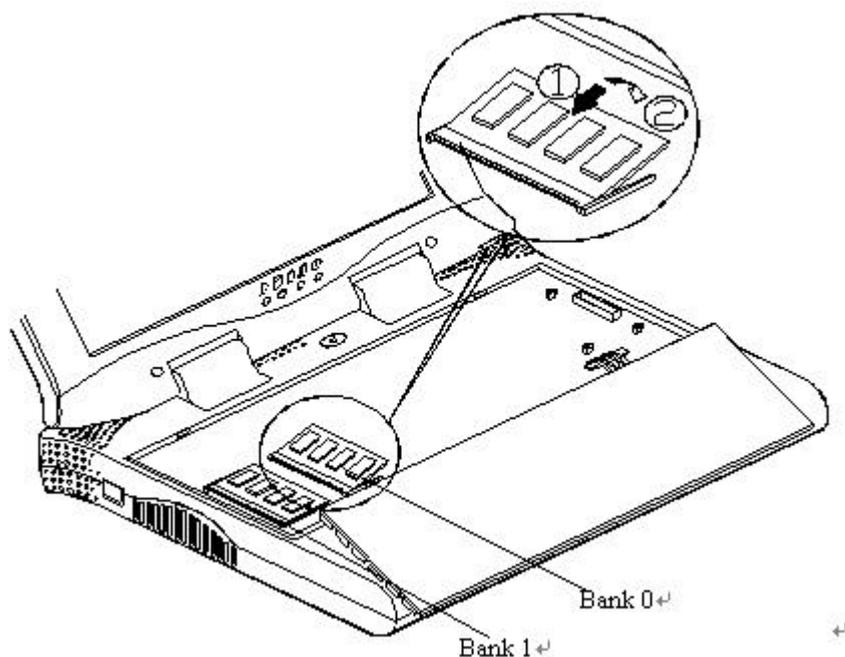

Figure 2-8
- Position the memory module at a slight angle and fit its connectors into the socket firmly. Push the module down and ensure it locks into place (Figure 2-8).